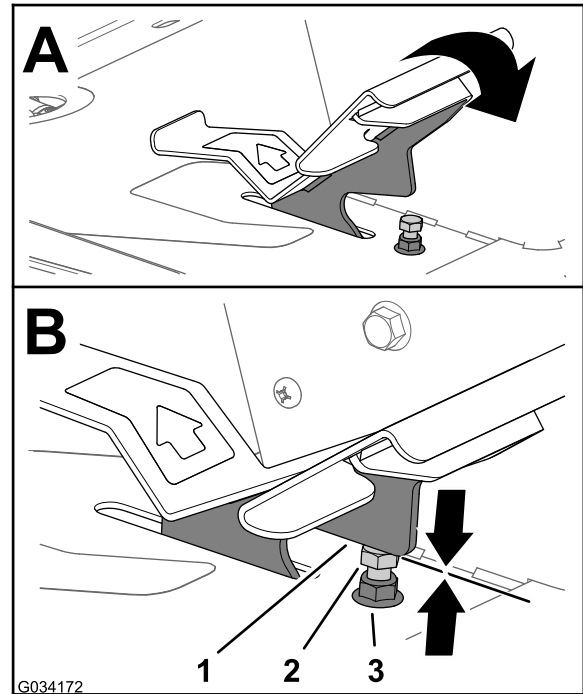
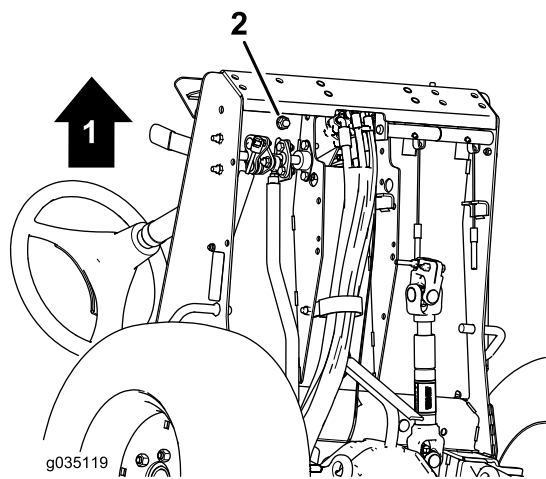

Figure 80
Figure 81
1. Move the traction pedal fully forward (Figure 80).
- A. Hold the traction-pedal stop (Figure 80) with a wrench.
- B. Loosen the jam nut at the bottom of the foot-rest plate (Figure 81).
- C. Move the traction pedal to the full forward position (Figure 80).
- D. While holding the traction-pedal stop, adjust the jam nut that is above the foot-rest plate (Figure 80) until the traction pedal makes contact with the stop.
- F. While holding the traction-pedal stop, torque the jam nut at the bottom of the foot-rest plate (Figure 80 and Figure 81) to 37 to 45 N·m (27 to 33 ft·lb).